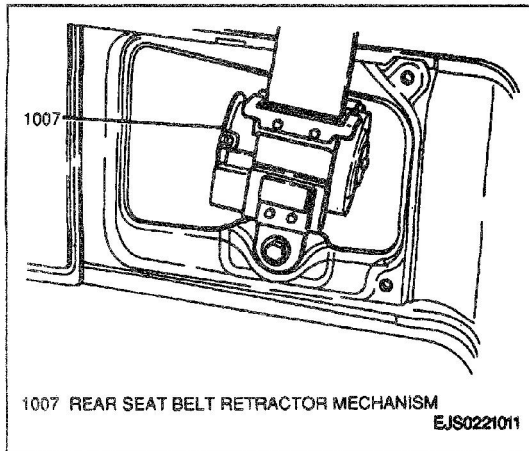

Figure 8—Rear Seat Belt Retractor Mechanism—
4. One bolt, one screw and rear seat belt retractor mechanism from vehicle (Figure 8).
1. Rear seat belt retractor mechanism to vehicle; secure with one screw and one bolt (Figure 8).
- Lift rear seat belt lower anchor bolt cover and remove anchor bolt (Figure 8).
6. Rear seat belt lower anchor bolt (Figure 8).